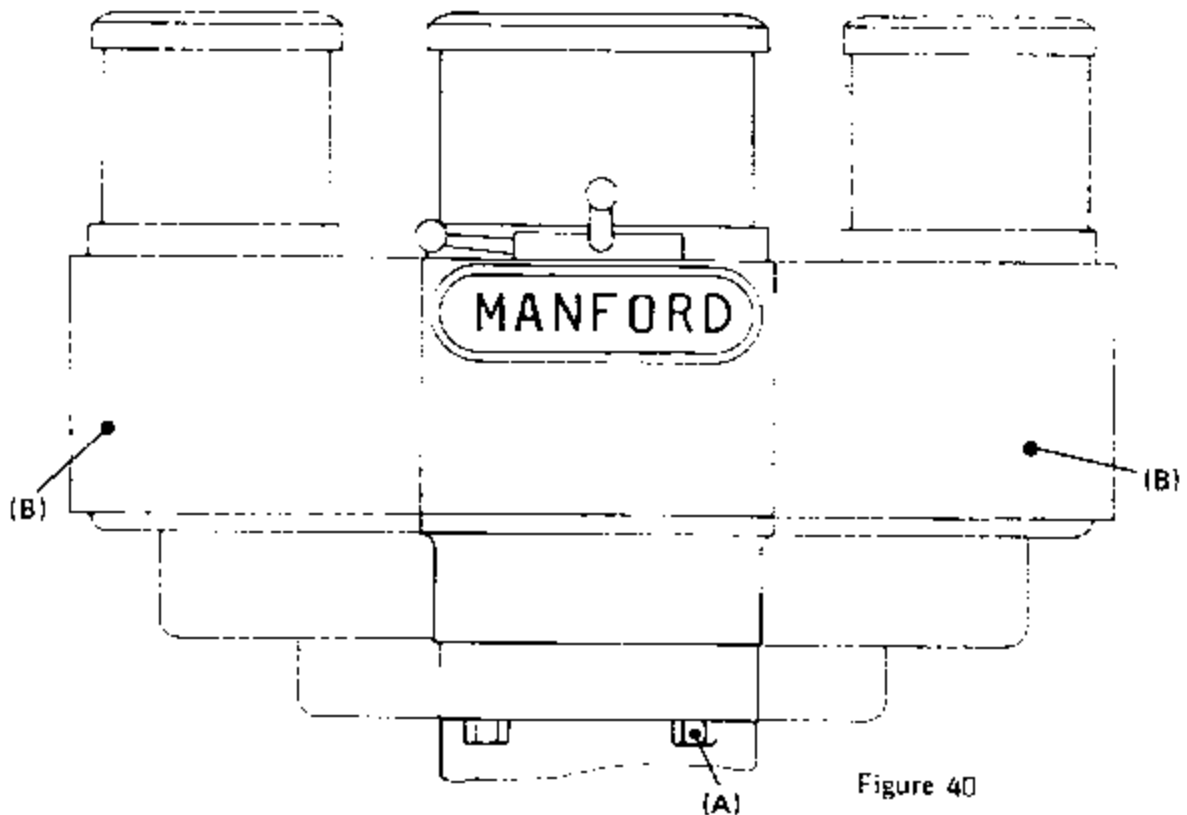

Figure 40
Machine head and gear housing are set by three 3/8 Bolts and three nuts. To turn the gear housing, it is necessary to loosen slightly the nut (A) (Vide Figure 40) and exercise the strength on (B) to push it to the angle desired. Then, lock up the three bolts (A) evenly and tightly.